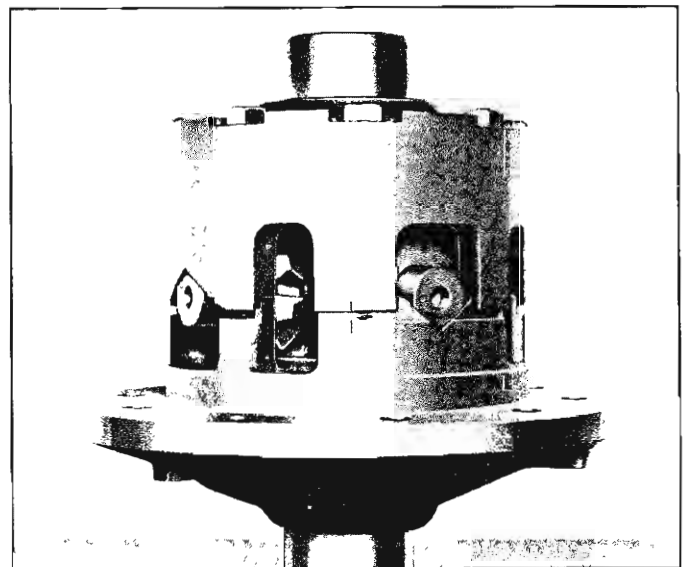

Fig. 37—Alignment Marks
1. Check to be certain that the differential case halves are marked with a number or letter to aid aligning the case when reassembling. If not, scribe an alignment mark as shown in Figure 37.